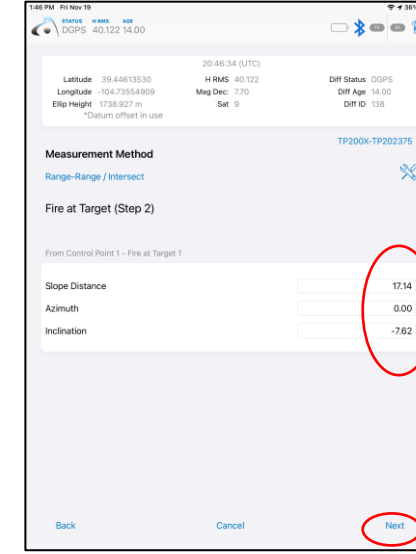

Figure 12A
- 12A. **Step #2:** Confirm values for Slope Distance and Inclination come through (Figure 12A) and tap **Next**